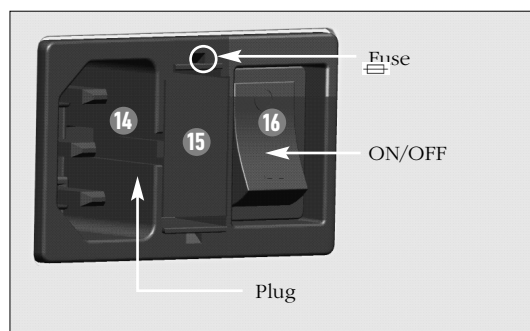

fig. 1
C. The equipment is powered by your line voltage (100/115/230 Vac). Connect the power cable to the plug **fig. 1**.